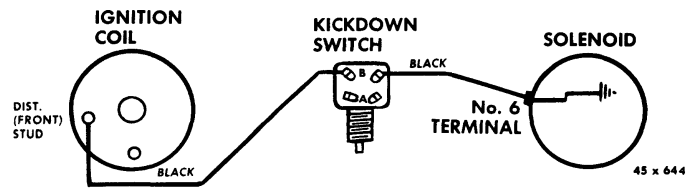
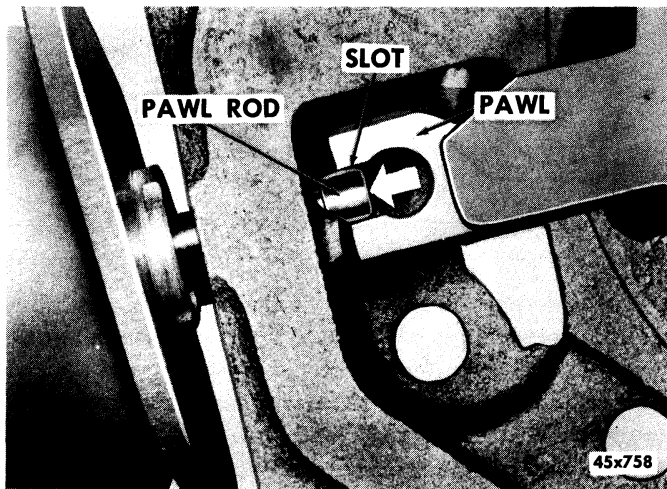

Figure 25—Ignition Interruption Circuit
Figure 26—Installing Solenoid
The ignition interruption circuit provides a means of shifting from overdrive to conventional drive rapidly. See Figure 25.
(1) Contact points "A" (Figure 25) which are normally closed are opened, breaking the circuit and de-energizing the solenoid. The solenoid spring attempts to retract the pawl in the overdrive unit (Figure 26) but due to torque exerted by the engine through the sun gear plate the pawl is held in place.
(2) Depressing the kick-down switch plunger further closes a set of points "B" (Figure 25) which completes the circuit from the ignition coil to the solenoid and then to ground. Grounding the circuit momentarily causes an interruption in the ignition and slows the speed of the engine enough to cause a reversal of torque which frees the pawl. When the pawl is fully retracted the solenoid points are opened, breaking the circuit through the kick-down switch and normal engine operation is re-established and the transmission is in third gear. When the pedal is momentarily released the overdrive unit is automatically re-engaged.
When installing the solenoid turn the solenoid 1/6 of a turn clockwise and insert it into the adapter plate to engage the pawl. Rotate the solenoid 1/6 of a turn counter-clockwise to its normal position. Line up the holes and test the engagement of plunger with the control pawl by attempting to pull the solenoid out of the adapter plate. See Figure 26.